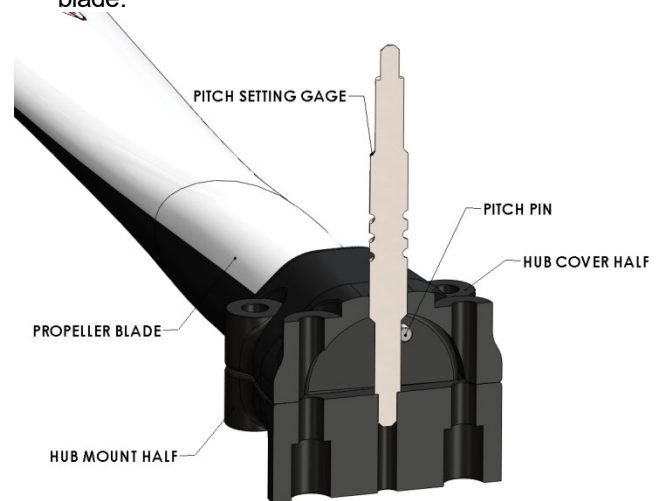

FIGURE 4. PITCH SETTING GAGE
6. Insert the pitch setting gage thru the clearance hole in the hub cover half and into the receiving hole in the hub mount half. See **Figure 4**. For aircraft with a maximum speed of 138 mph or less, use pitch setting gage #3 or #4. For faster aircraft, use pitch setting gage #5 to start. The pitch setting # indicates relative pitch; pitch #5 is higher pitch than pitch setting #4, etc...
4. Insert the desired pitch setting gage thru the clearance hole in the hub cover half and into receiving hole in the hub mount half. See **Figure 4**.